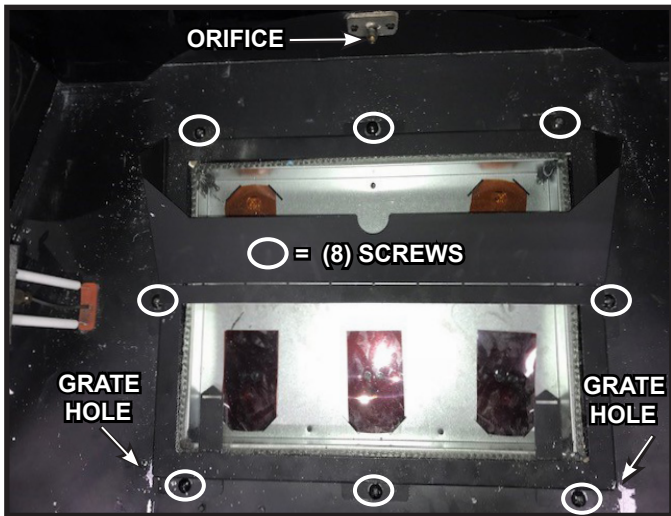

Figure 19 Glass Assembly back in appliance with screws
20. Reinstall the Burner / Grate Assembly by sliding the burner tube fully onto the orifice on the back wall inside the firebox. Line up the two front holes of the front grate legs with the two existing screw holes in the bottom inside the firebox. See Figures 19 and 20.